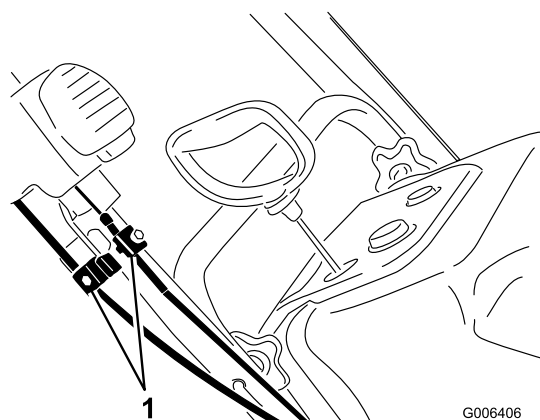

Figure 40
1. Loosen the 2 Quick Shoot control-cable clamps (Figure 40).